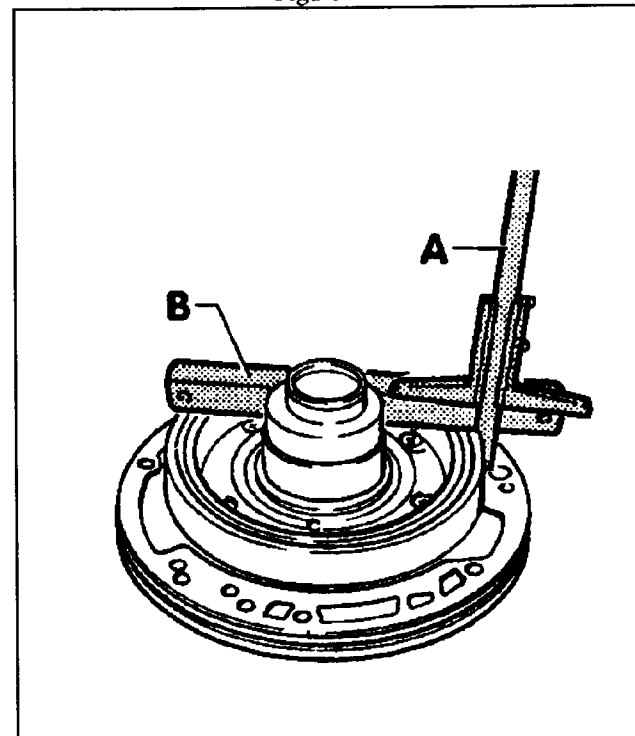

Figure 159
3. To calculate "B", place a straightedge onto the stator support and measure with depth gauge to gasket of the pump flange as shown in Figure 159.